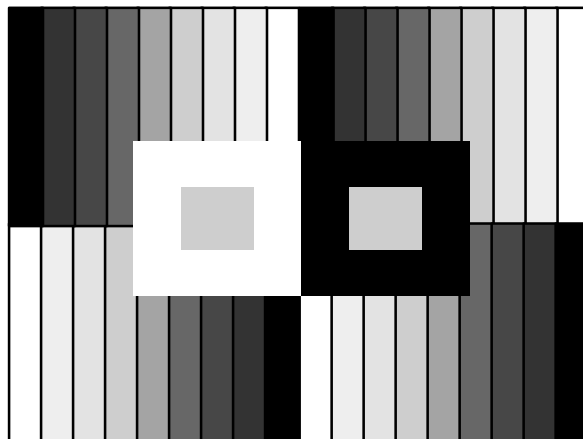

Figure 5-17. Grey/Pluge Test Pattern.
8. Use the up/down arrow keys to adjust the black level so the small, black square in the center of the larger black square is *just barely* visible (refer to Figure 5-17). Press Enter when finished.
4. Use the up/down arrow keys to adjust the Sensitivity Offset so the small, white square is just barely visible inside the larger white square (see *Figure 5-17*).
4. Observe the two or three **brightest** bars in each of the four sections of the test pattern (see *Figure 5-17*). If any color is too prominent in these two or three bars, adjust the Sensitivity Offset (see *below*) for that color.